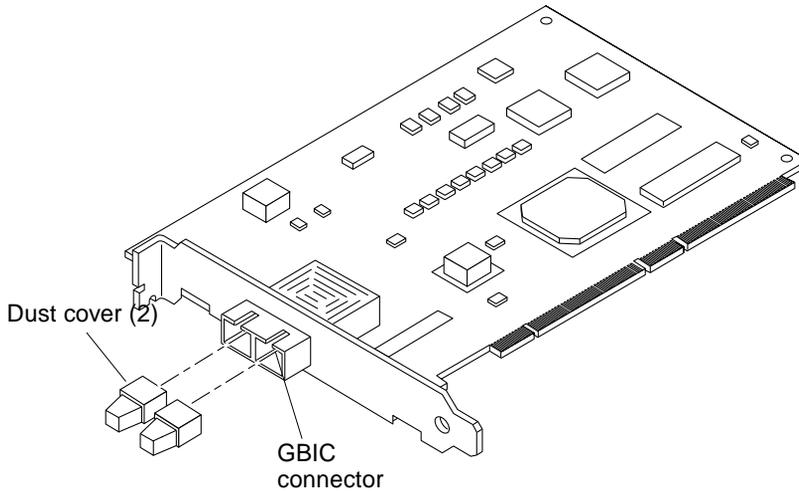

FIGURE 9-19 Removing and Replacing the Host Adapter Dust Covers
7. Push the two dust covers into the host adapter gigabit interface converter (GBIC) connectors (FIGURE 9-19).
8. **Connect the fiber optic cable into the host adapter GBIC connector until you hear a click (FIGURE 9-19 on page 9-28).**